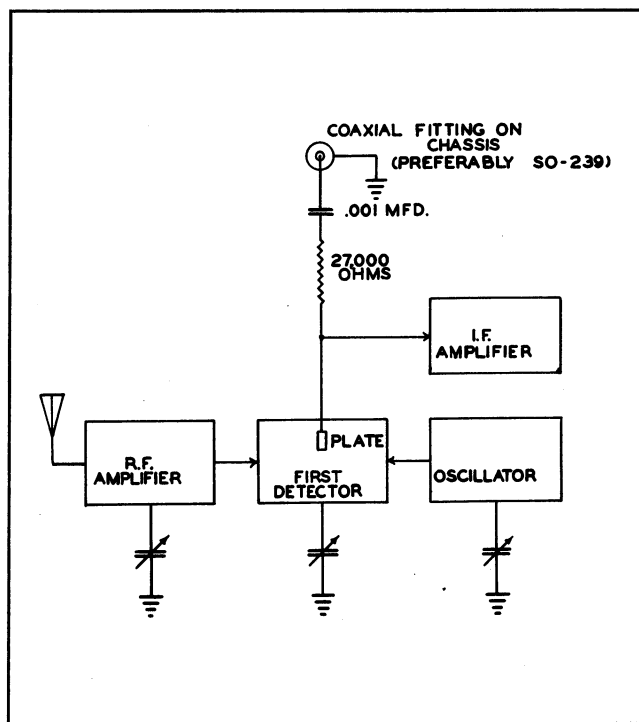

Figure 5-1. Modification of Any Superheterodyne Receiver
a. Almost any receiver may be modified to be used with Panoramic Adapter AN/APA-10. Modification consists of providing a coaxial cable outlet on the receiver chassis, which is connected to the converter plate through an isolation network as indicated in figure 5-1.